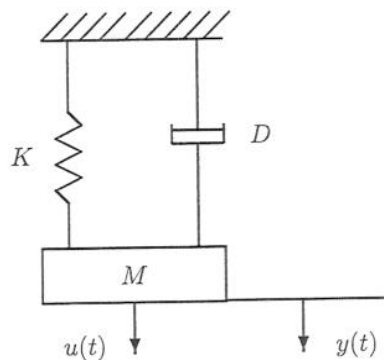

Figure 1.1
1. (a) Figure 1.1 shows a mass-spring system where K , D and M have the standard interpretation. The signal $u(t)$ represents an applied force and $y(t)$ the displacement from the rest position.